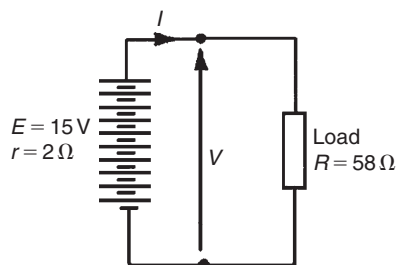

Figure 4.4
- (a) For ten cells, battery e.m.f.,  $E = 10 \times 1.5 = 15\ \text{V}$ , and the total internal resistance,  $r = 10 \times 0.2 = 2\ \Omega$ . When connected to a  $58\ \Omega$  load the circuit is as shown in Fig. 4.4